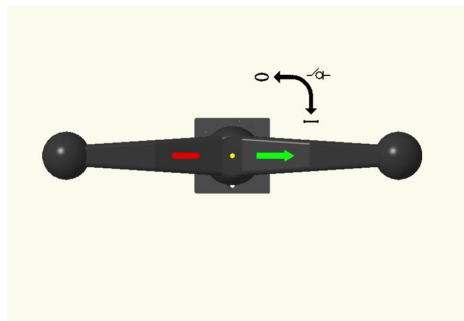

Figure 6-2 Closure of Maintenance Bypass
Step 4: Rotate the bypass switch to the right, as shown in Figure 6-2: